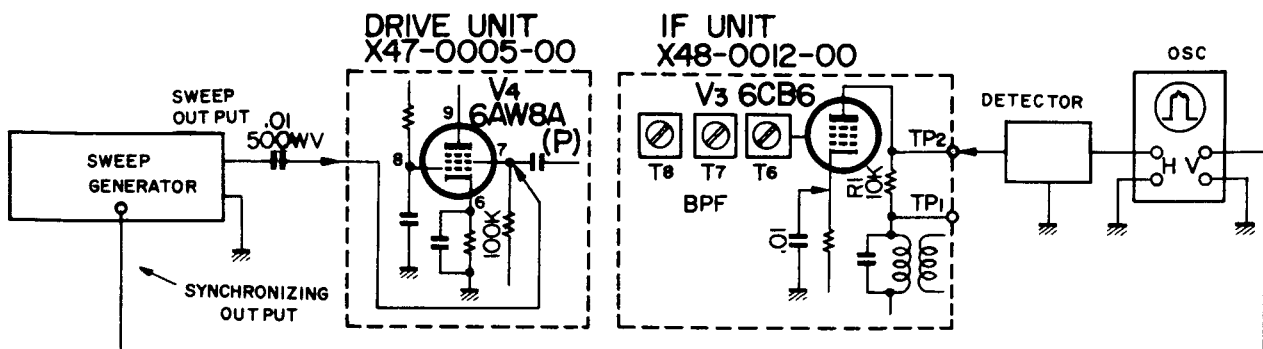

Fig. 6
(3) Adjusting procedures: (Refer to Fig. 6)